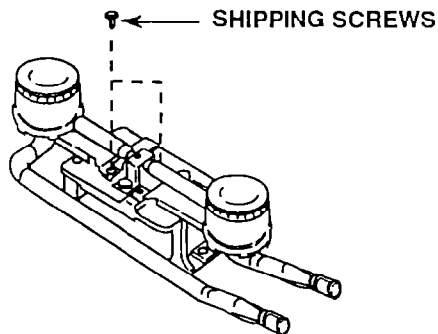

Fig. 9
4. Lift the cooktop and remove the four shipping screws from the cooktop burner. These screws may be discarded. (See Fig. 9).